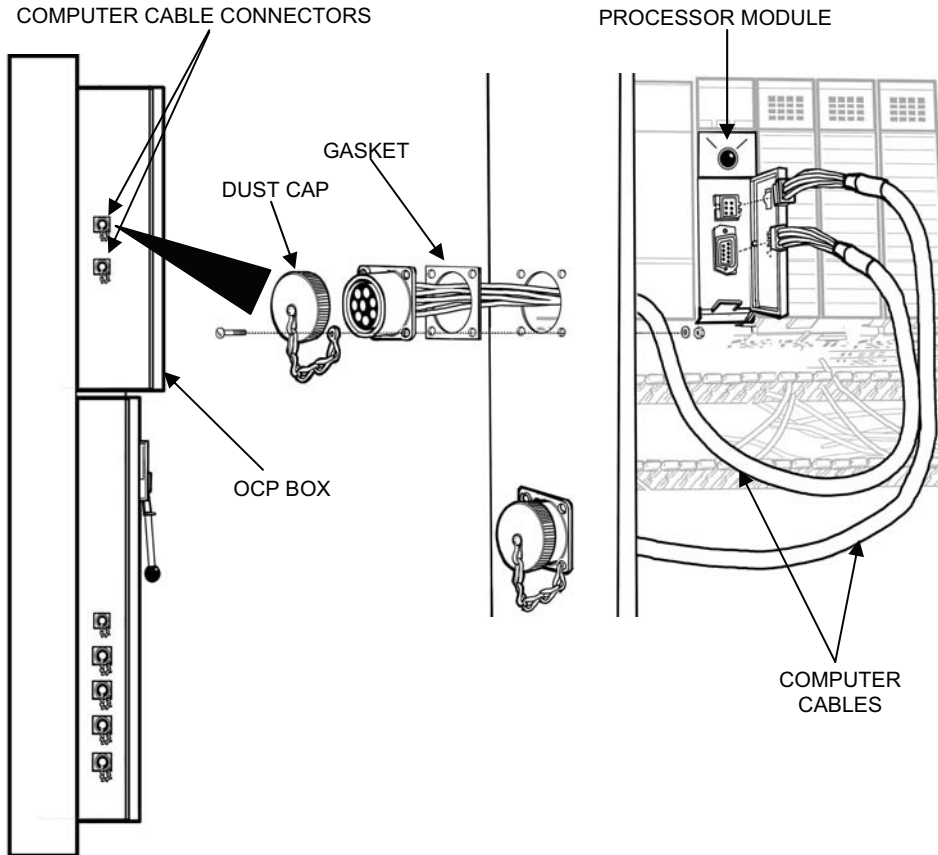

Figure 15. Computer Cable Assembly Replacement.
1. Remove computer cable as follows (see Figure 15):